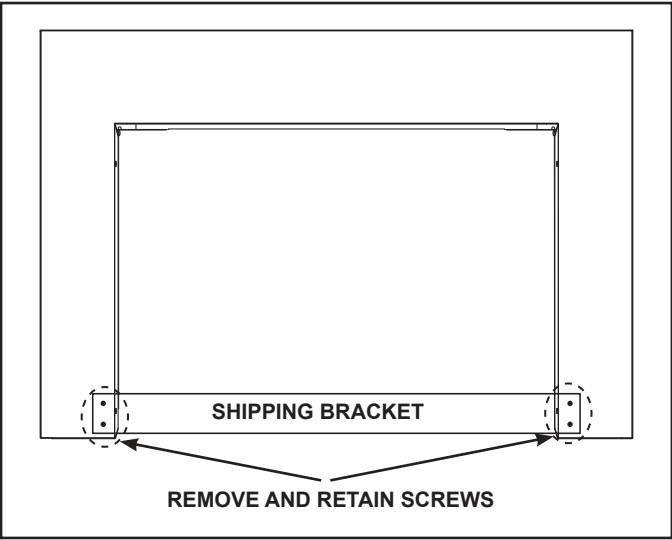

Figure 4.3 Shipping Bracket
- 3. Remove the shipping bracket by removing the four screws that attach the bracket to the surround. Keep the four screws to use later to attach surround to appliance. Discard the bracket. See Figure 4.3.